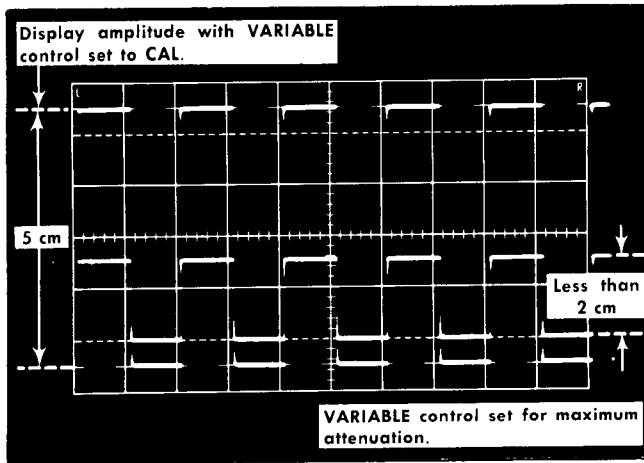

Fig. 6-4. Typical CRT display showing VARIABLE (V/CM) control range (double exposure photograph). Sweep rate is 0.5 ms/cm.
e. CHECK—The display amplitude should be reduced to 2 cm or less (see Fig. 6-4).